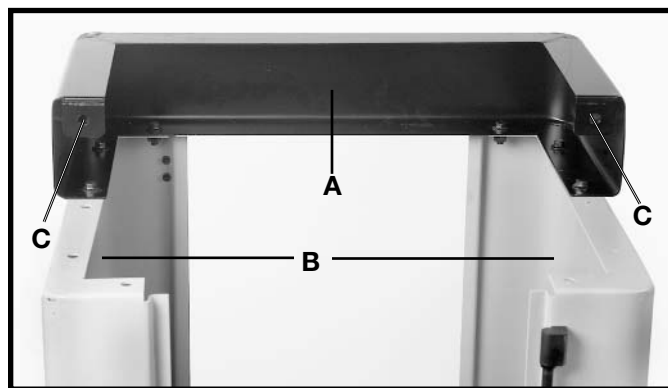

Fig. 8
14. Align the holes in the base (A) Fig. 8, with the holes in the two sides (B).
15. Insert a M8x1.25x16mm hex head flange screw through the hole in the side of the stand (B) Fig. 8, and through the hole in the base (A).
18. Assemble the other side of the base in the same manner. Attach the two bases together by inserting a M8x1.25x16mm hex head flange screw through the hole (C) Fig. 8, in each base, and thread a M8x1.25 hex flange nut onto the screw.